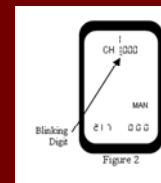

Figure 2
- Press the **MODE** button, the screen will display a "CH" followed by 4 numbers, the first number will be blinking (see Figure 2).